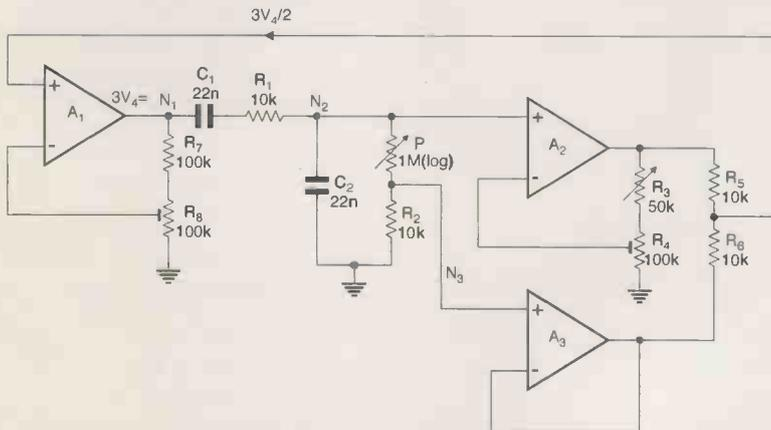

Fig.4 Here A_2 and A_3 perform the same function as the A , B divider of Fig.2 (a)
Evidently $3V_4$ can be computed from V_2 and V_3 by an operational circuit. One realisation of this is shown in Figure 4. Here A_2 has an output of $2V_2$ and A_3 of V_3 . The combining network R_5 , R_6 reduces the output to $3V_4/2$ so to sustain oscillation A_1 must have a gain of 2. Note that the input capacitance of A_2 can now be absorbed in C_2 .
The amplifiers should be f.e.t. - input types. The gain-setting potentiometers should be capable of fine adjustment. If range switching is required the capacitors should be very accurately matched or a separate equalising adjuster (for A/B or R_4 in Figure 4) provided on each range. Reference: (1) E.R. Wigan, Single Control Element Wien Bridge, *Electronic Technology*, June, 1960, vol. 37, no.6, pp223-231